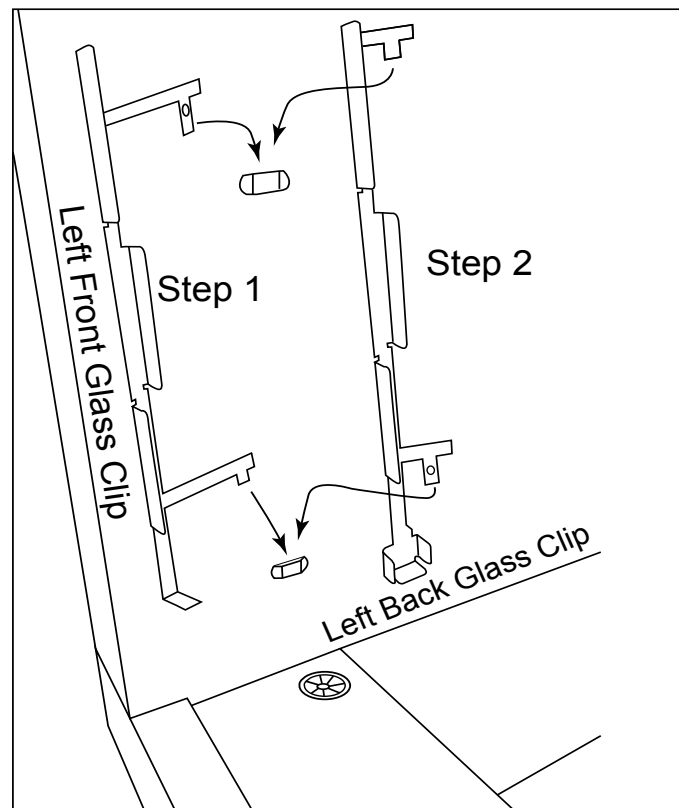

Fig. 4 Shows clips installed on left side of fireplace
**Step 4:** Install the front glass clips (77155 & 77154) into the metal bridges by sliding the tab of the clip through the metal bridges as shown in Fig. 4. One clip on each side.